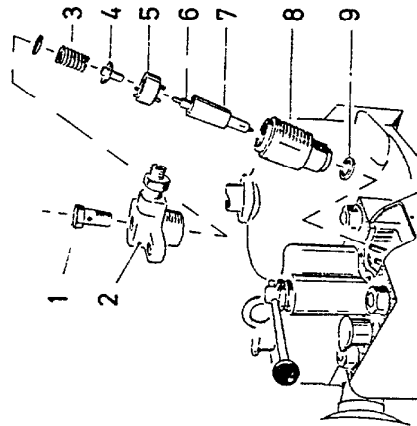

Fig. 12
4. Check injector nozzle, clean if necessary. (Multihole 150 kg/cm², 2135 p.s.i.). Page 8, fig 12.
Dismantle injector holder as shown in fig. 12. Rinse all parts in clean fuel oil and remove dirt with a wooden stick and wipe with clean rag.